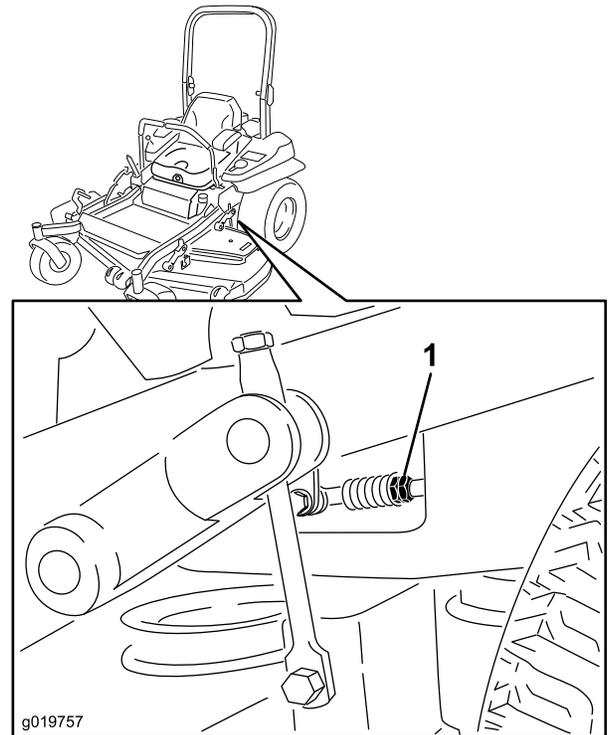

Figure 78
8. Adjust the pump control rod lengths by rotating the double nuts on the rod in the appropriate direction until the wheels slightly creep in reverse (Figure 78).